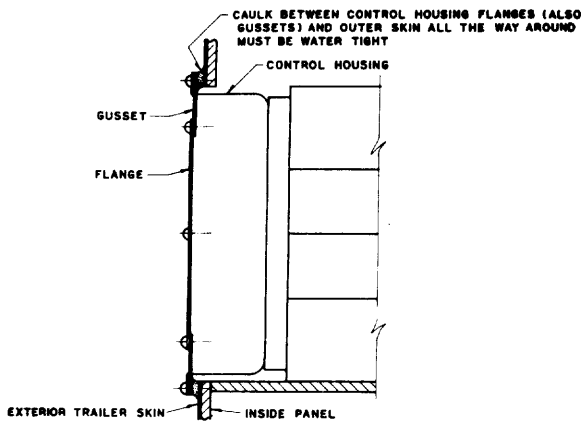

Figure 4
- B. Caulk around opening and/or behind flanges and gussets as illustrated in Figure 4. NOTE: Purpose of caulking is to assure a water tight seal between control housing and exterior coach skin.
- H. Place door hinge pin retainer bracket over hinge pin. Align with mounting holes in control housing and secure to coach wall using No. 8 x 3/4" wood screws. NOTE: Be sure control housing is tightly secured to coach wall (twelve places) and sealed water tight. (See Figure 4)